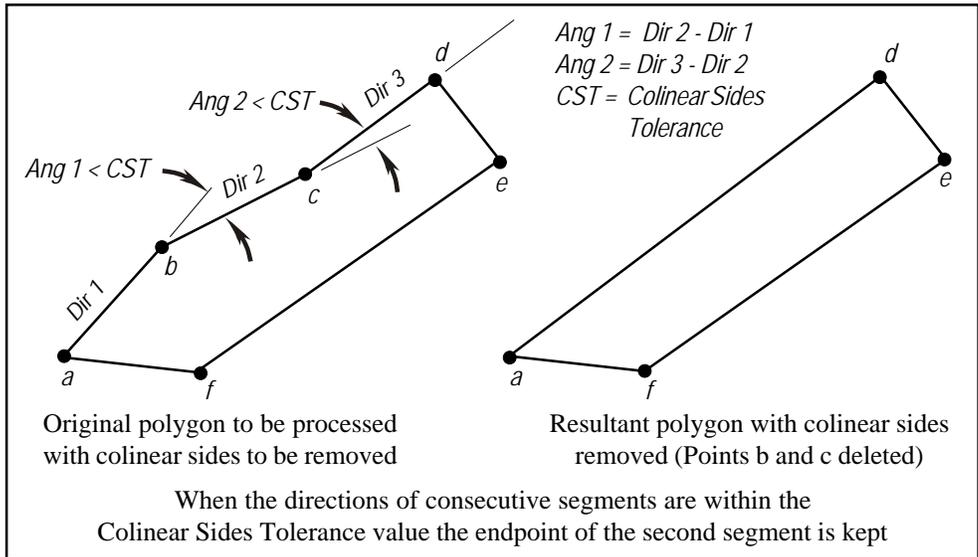

Figure 15 - Example of Colinear Sides Removal
c. Shown in Figure 15 is a diagram illustrating how the Colinear Side Tolerance value is used to eliminate colinear sides, thereby resulting in a single course definition.